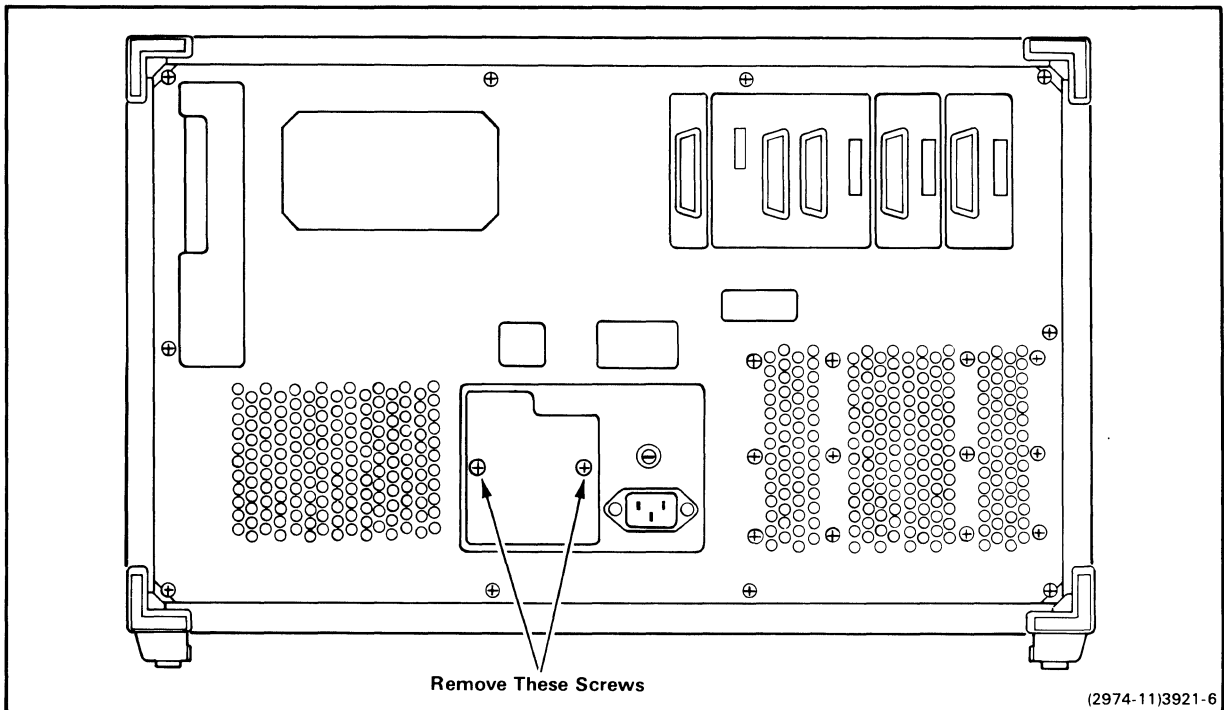

Fig. 18-3. 8540 primary voltage cover plate.
1. Refer to Fig. 18-3. Notice the small plate near the center of the 8540 rear panel. Using a Phillips screwdriver, remove the screws holding this cover plate.